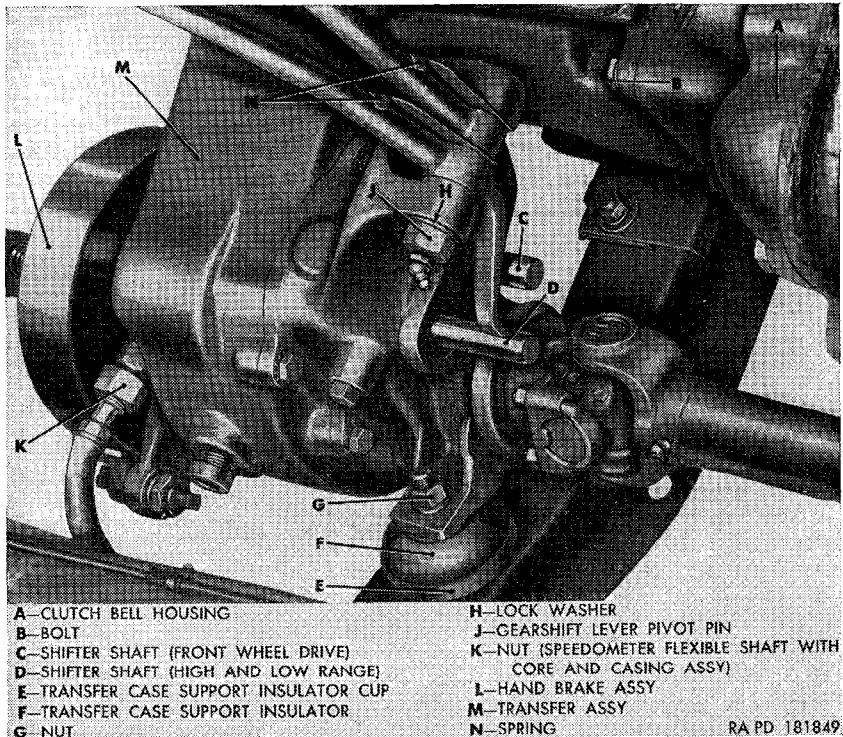

Figure 57. Power plant removal—transfer disconnect points.
- (1) Remove the gearshift lever knob from the transmission gearshift lever (A) and the knobs (K) from the transfer high and low range gearshift lever (E) and the transfer front wheel drive gearshift lever (F).
- (2) Remove the sheet metal screws from the boot retaining ring (B) and slide the boot (C) up and off the levers. Loosen the screw in the clamp (G). Loosen the clamp (J) and remove the transmission gearshift lever boot (H) and the clamps from the lever.
- (3) Loosen the lockwasher screws in the transfer gearshift lever pivot pin access plate (D) and swing the plate back. Reach through the opening and unscrew the gearshift lever pivot pin (J, fig. 57). Pull the pin with lockwasher (H, fig. 57) out through the opening, and remove the gearshift levers and springs (N, fig. 57).
- (4) Unscrew the transmission gearshift lever housing cap from the housing and remove the lever. Stuff a clean rag in the housing opening.
- (1) Disconnect the rear end of the front propeller shaft (par. 202a(1)), and the front end of the rear propeller shaft (par. 202b(1)).
- (2) Unhook the spring (K) from the skid plate (J) and the brake rod adjusting yoke (F). Remove the cotter pin and separate the clevis pin (H) from the yoke and hand brake cam lever (G).
- (3) Remove the two lockwasher nuts (L) and flat washers from the studs of the engine rear mounting support cushion with studs assembly (M).
- (4) Remove the lockwasher nut on the stay cable assembly (P) and remove the cable. Unhook the service brake pedal retracting spring (T) from the bracket (R). Remove the cotter pin and clevis pin from the control tube lever release cable yoke (V).
- (5) Unscrew the transfer case support insulator snubber bolt from the nut (G, fig. 57) on top of the right side of the engine
rear support cross member (Q) and remove the lockwasher. Pull the bolt with two flat washers and the snubber out of the transfer case support insulator (F, fig. 57) and the cross member. Unscrew the nut (K, fig. 57) on the end of the speedometer flexible shaft with core and casing assembly (E) from the transfer speedometer drive gear sleeve, and remove shaft with core and casing assembly from the sleeve.
the cross member, the case support insulator retaining cup, the case support insulator, the 1/2-inch washer, and through the hole in the transfer case support. Install a 1/2-inch lockwasher and 1/2-inch nut (G, fig. 57). Connect the speedometer flexible shaft with core and casing assembly to the speedometer gear sleeve on the transfer.
- (1) Insert the transmission gearshift lever (A) in the housing and screw the transmission gearshift lever housing cap onto the housing. Slide the boot (C) and clamp (G) over the lever and tighten the screw in the clamp. Slide the clamp (J) over the lever and boot and tighten the clamp.
- (2) Position the transfer high and low range gearshift lever (E) in the shifter shaft (D, fig. 57) slot. Place a 5/8-inch internal-teeth lockwasher on the gearshift lever pivot pin (J, fig. 57). Working through the access plate opening, push the pin into the transfer hole and part way through the lever hole. Position the transfer front wheel drive gearshift lever (F) in the shifter shaft (C, fig. 57) slot and slide the pivot pin through the lever hole. Install the springs (N, fig. 57) over the pivot pin and onto the levers. Screw the pivot pin into the transfer.
- (3) Swing the gearshift lever pivot pin access plate (D) into position and tighten the two lockwasher screws. Slide the boot (C) and the boot retaining ring (B) over the levers and install the four sheet metal screws in the ring.
- (4) Install the transmission gearshift lever knob on the lever. Install the transfer high and low range gearshift lever (E) and the transfer front wheel gearshift lever knobs (K) on the levers.